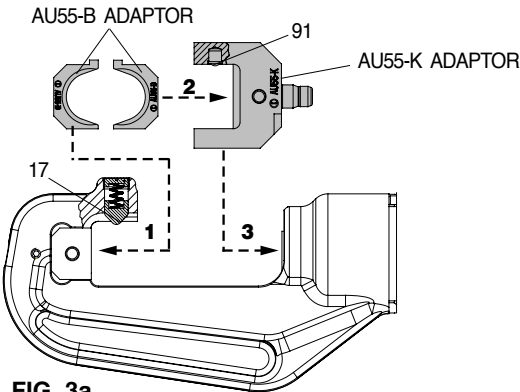

FIG. 3a
- Insert half of the adaptor AU55-B in the upper seat of the head (1) and the second half into the adaptor AU55-K (2); the two halves of the adaptor will be held by pins (17 and 91).
- Insert the adaptor AU55-K into the seat of the ram (3) (see Fig. 3a).